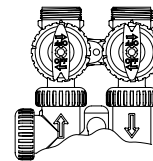

figure 1
3. Attach the bypass to the unit. (see figure 1)
**1. Normal Operation Position:** The inlet and outlet handles point in the direction of flow indicated by the engraved arrows on the control valve. Water flows through the control valve during normal operation and this position also allows the control valve to isolate the media bed during the regeneration cycle. (see figure 1)